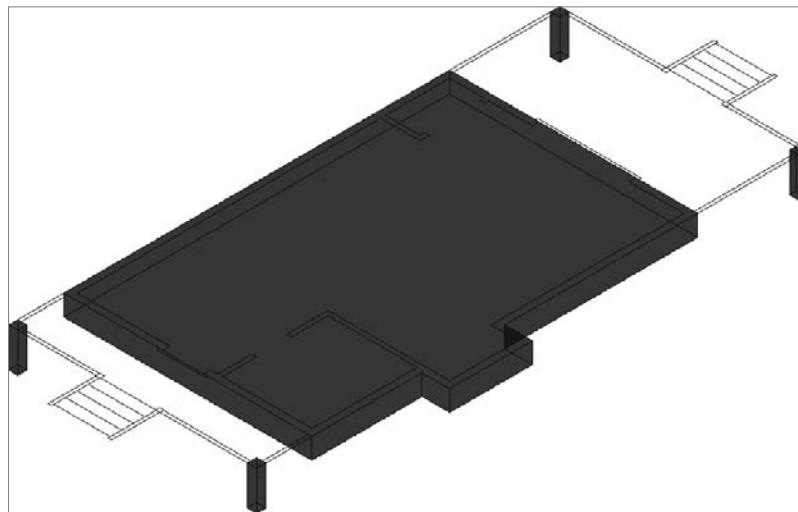

FIGURE 16.29 The foundation and supports
6. Start the **EXTRUDE** command, select all four rectangles, and then extrude them **2'-10" (864 mm)** in the negative Z direction. When you're done, the foundation and supports should look like Figure 16.29.